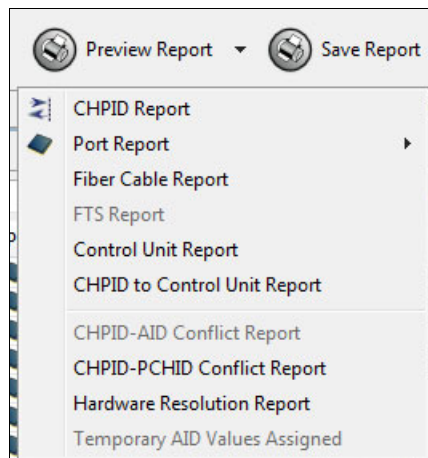

Figure 7-52 CMT - Preview report - CHPID Report
1. Click **Preview Report** → **CHPID Report** (Figure 7-52).